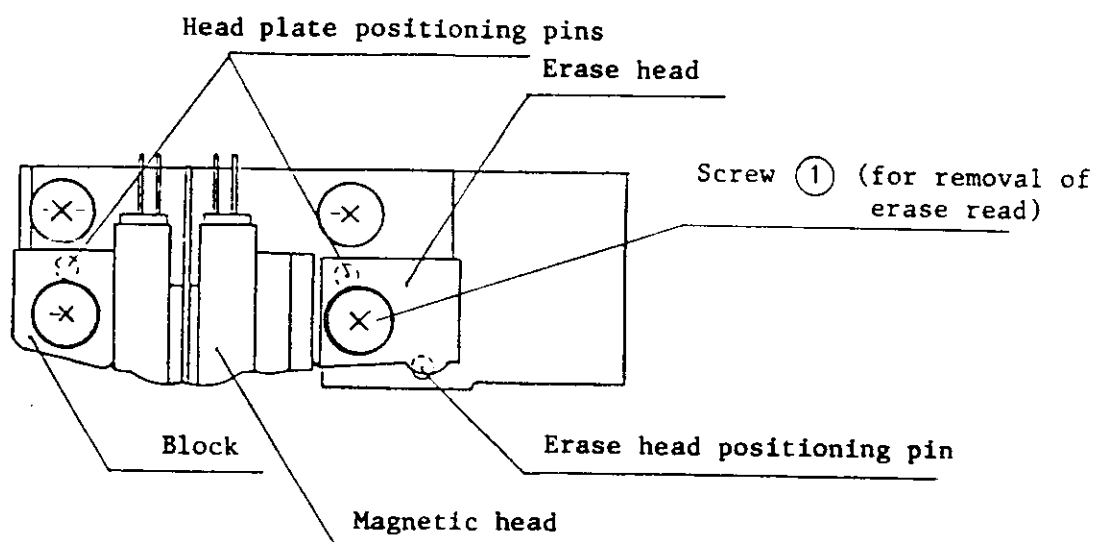

Figure L.1 Read/write head and erase head
- (1) Remove screw (1) shown in Figure L.1. Pull the erase head out far enough to access the push-on connectors.
- (2) Remove the two connectors and remove the erase head.